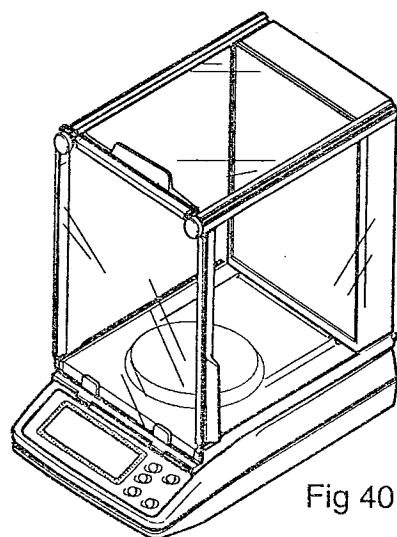

Fig 40
Step 18. Temporarily install the upper case, breeze break and pan assemblies (Fig 40). Connect the force motor cables to the main board and apply power to the balance. Check the balance for repeatability at zero, full span.